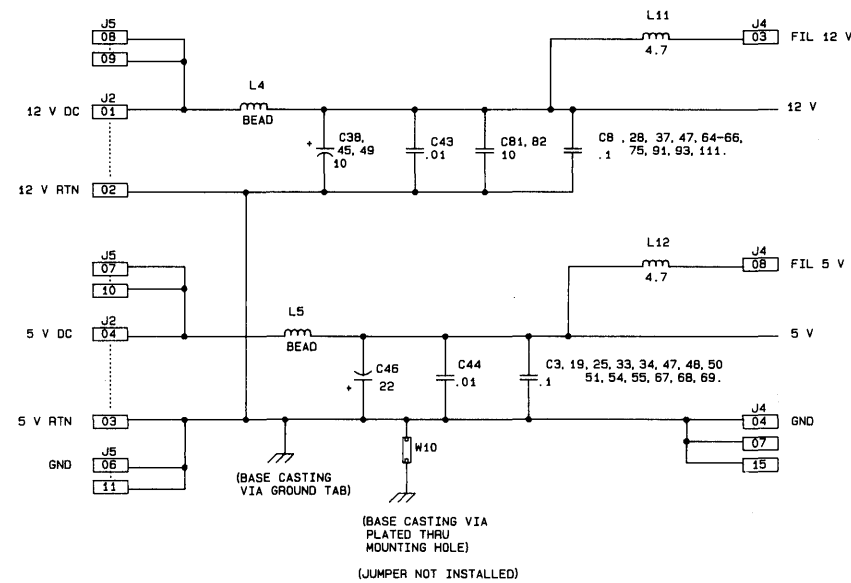

Figure 3-2
- Figure 3-2: Schematic, PCB-7, Sheet 1